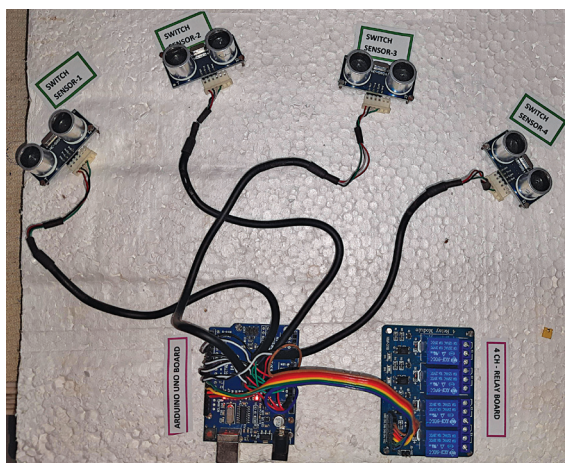

Fig. 4: Author's prototype
A PVC switchboard box can be used to enclose the Arduino Uno and the relays board. Connect the AC appliances in accordance with the specifications of the relays. The connection of phase (L) and neutral (N) wires is shown in the circuit diagram. The author's prototype is shown in Fig. 4.